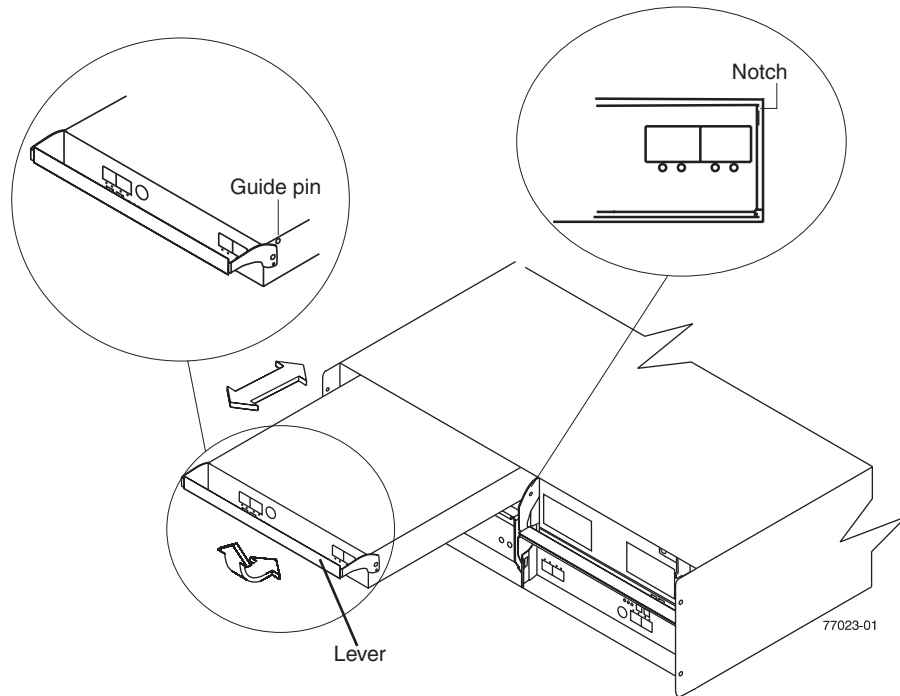

Figure 19. Removing and replacing an Environmental Service Module (ESM)
1. Slide one ESM into the empty slot in the storage expansion enclosure. Be sure that the lever is pulled straight out as you slide the ESM in, as shown in Figure 19 on page 33.